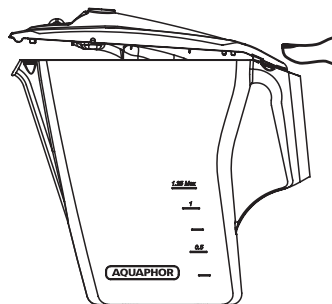

Figure 11b
- Press down your thumb on the back of the cover until it moves forward, as shown in (fig. 11b).